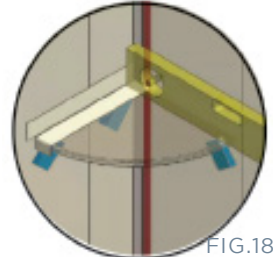

FIG.18
- Place the shelf in position to confirm that it is level. If required, adjust the stabiliser blocks to suit. Optional apply insulation/gaffa tape to shelf/wall to prevent bleeding of the adhesive onto the wall or shelf (FIG18).